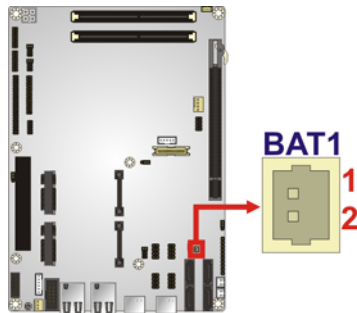

Figure 3-3: Battery Connector Location
- CN Location:** See **Figure 3-3**